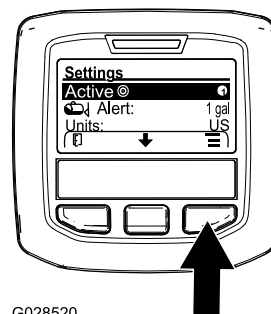

Figure 69
- Press the center selection button to highlight the Active application rate setting (Figure 69).
- Press the right selection button to toggle between application rate 1 and 2 (Figure 69).